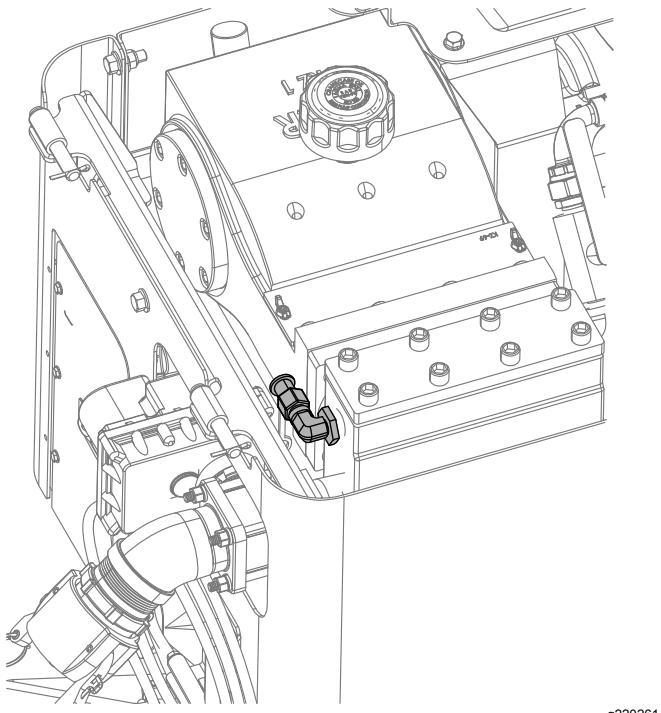

Figure 123
- 5. Connect the spray-hose attachment to the fitting (Figure 123).